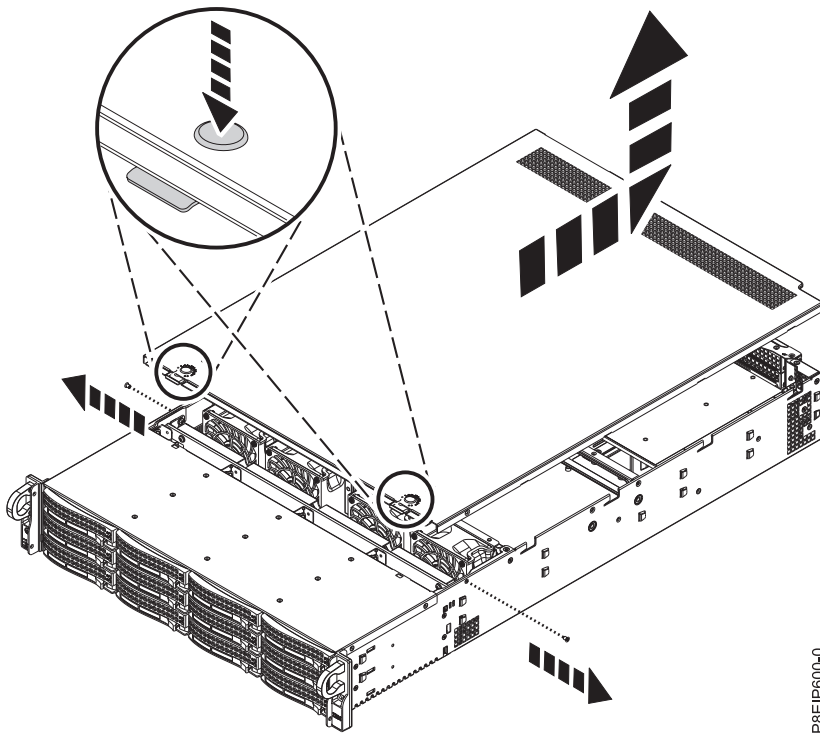

Figure 95. Releasing and opening the cover
3. Press both buttons on the top cover to release the latches as shown in Figure 95, and push the cover back about 0.5 in (1 cm) until it stops. If the buttons do not easily press down, partially remove the drives directly under the buttons.